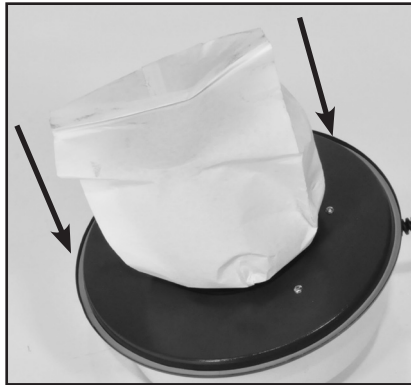

FIG. 3
3. Push the filter assembly down onto the motor body, making sure it is fully seated and secure. FIG. 3.